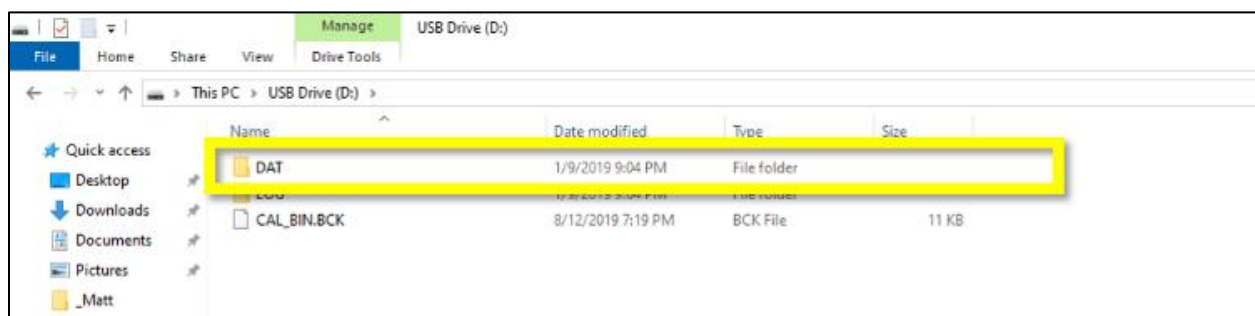

Figure 3. Open DAT Folder in USB Drive
2. Open the DAT folder (Figure 3).